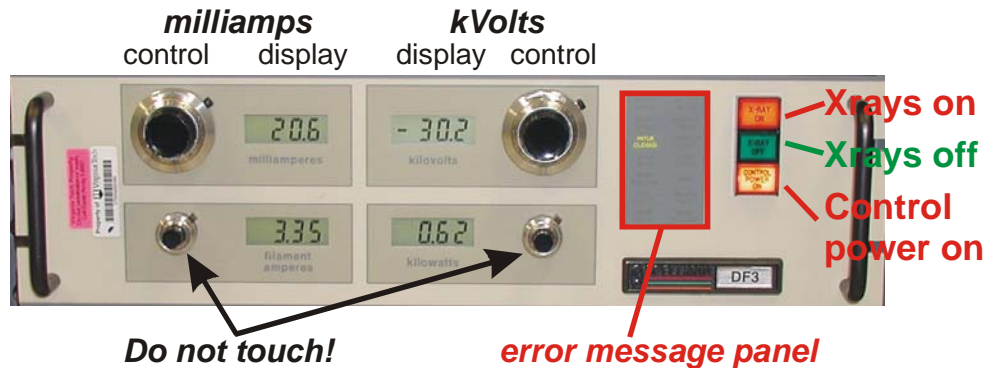

Figure 1: Spellman Generator Controls
- c) Turn on the MAINS switch in the lower left of the generator cabinet. At this point three things should happen: (1) Four small green lights and no red lights to the far right of the mains switch should be lit. (2) The green XRAY OFF button on the Spellman Generator should light (Fig 1), and (3) a green INTLK CLOSED message should illuminate in the error message panel (Fig 1). If INTLK OPEN is lit, then there is no cooling water, so check the KMW3000 chiller. If these three things don't happen exactly as described (for example, if additional messages appear), discontinue the startup procedure and contact Jing Zhao or Ross Angel.
- d) Press the orange CONTROL POWER ON button (Fig 1). You should see the mA, kV, filament amperes, and kW windows illuminate.